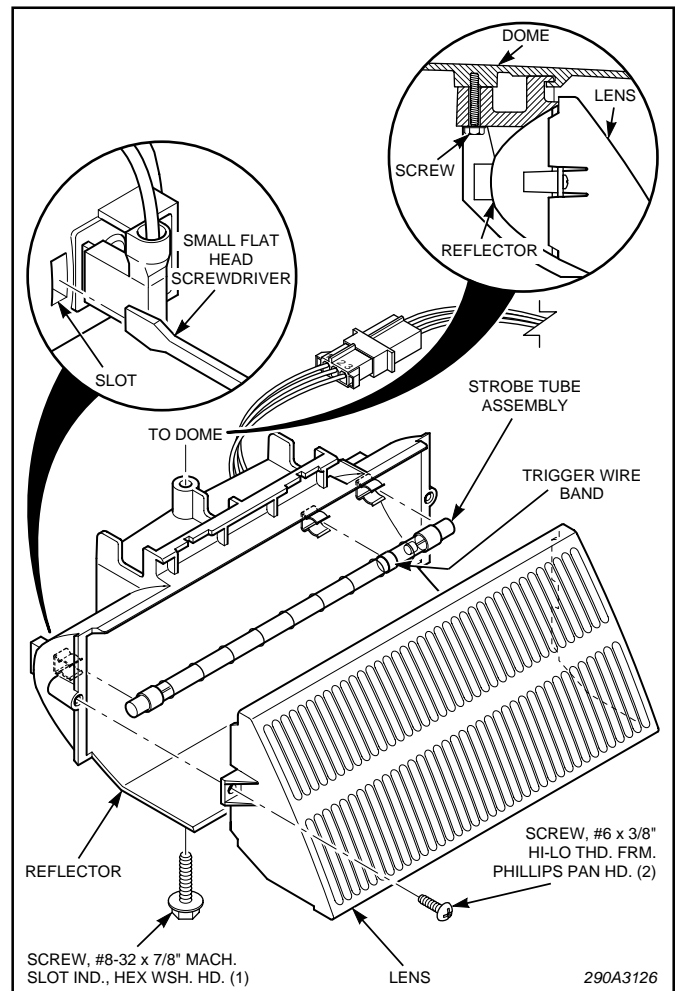

Figure 5.
See figure 5 and proceed as follows:
d. Carefully install the new strobe tube. Ensure that the new strobe tube is properly oriented. See figure 5. The trigger wire band **MUST BE** aligned with the clip in the reflector and the trigger wire lacing, wrapped around the glass tube, faces the rear of the reflector.